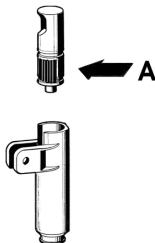

figure 2
- 2** Lubricate the faucet piston (in the area A shown in fig. 2) using food grade approved lubricant.